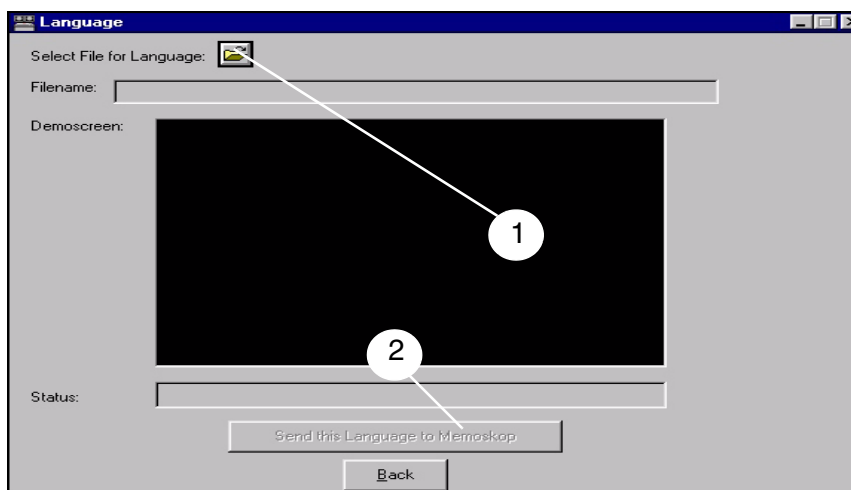

Fig. 10
- The "Transferring Language" window is displayed (Fig. 10).
- Click on the Select file: "Language File" button (1/ Fig. 10).
- Select the "Send this Language to Memoskop" button (2/Fig. 10).